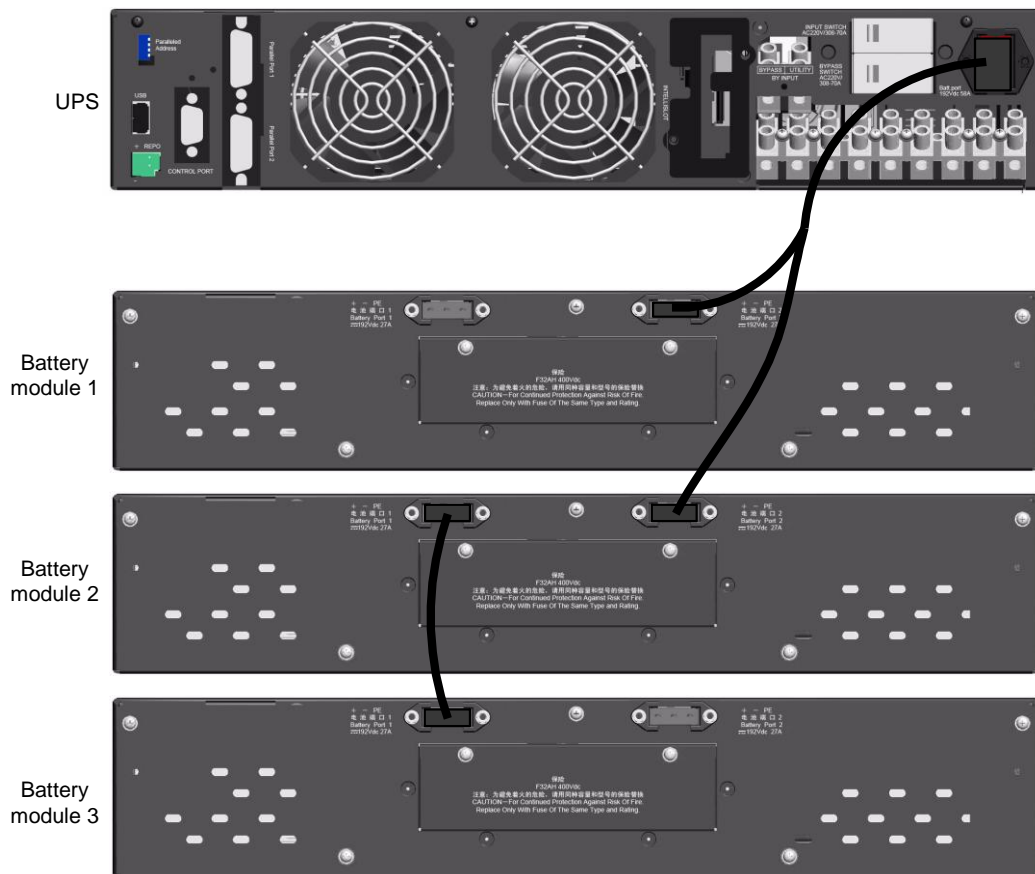

Figure 2-27 Cable connection of long back-up UPS and standard battery module
3. Connect the red, black and green terminal at one end of the battery cable A to the corresponding terminals of the battery port on the rear panel of the UPS, and connect the other end of the battery cable A to one of the battery ports of the battery module 1 and the battery module 2, as shown in Figure 2-27.